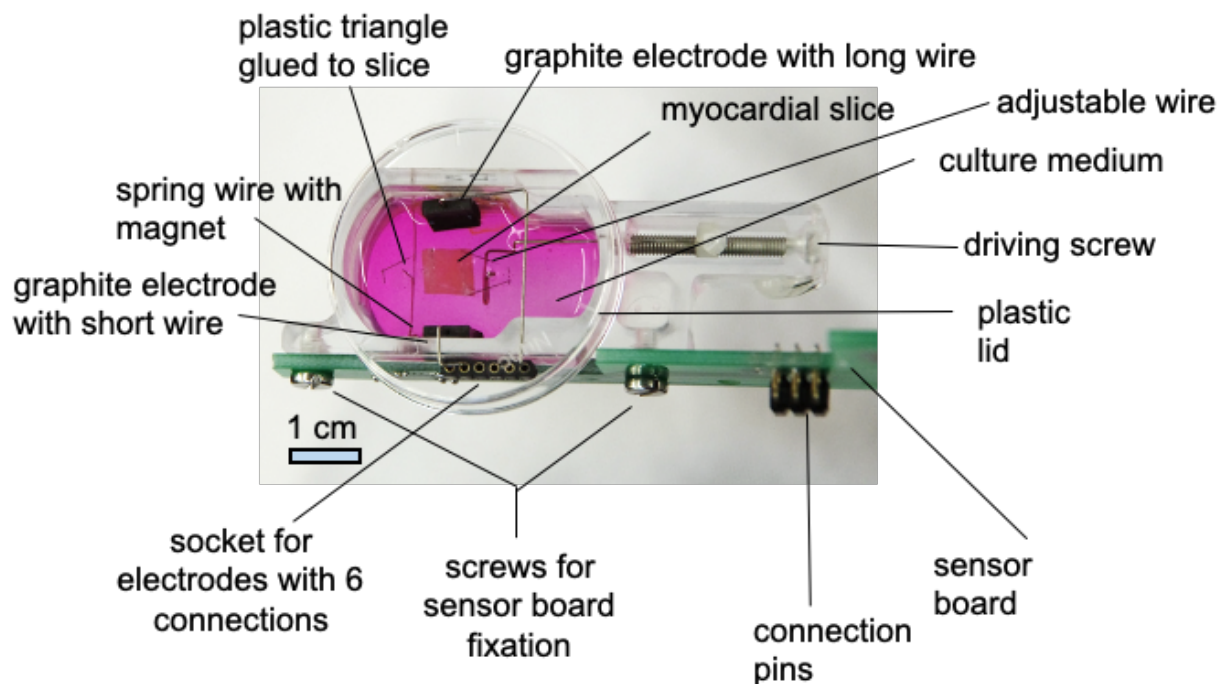

Figure 1. Photograph of completely assembled MyoDish chamber, containing culture medium and a mounted myocardial tissue slice.
- Insert the dry electrodes into the chambers (1 short wire electrode and 1 long wire electrode into each chamber, see Fig. 1)
- Connect the short-wired electrode to one of the left three connections of the socket, the long-wired electrode to one of the right three connections (Fig. 1)